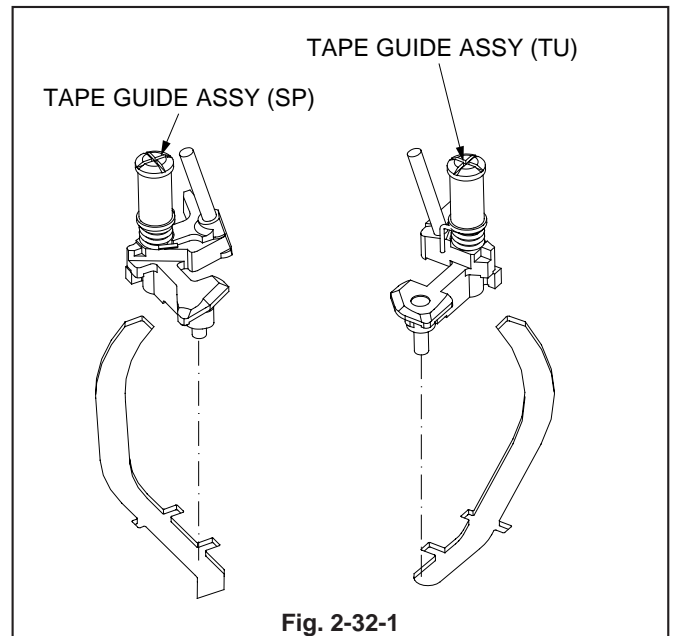

Fig. 2-32-1
1. Loosen the TAPE GUIDE ASSY (SP) shown in Fig. 2-32-1 (turn it fully in the unloading direction) to remove it.
2. Loosen the TAPE GUIDE ASSY (TU) shown in Fig. 2-32-1 (turn it fully in the unloading direction) to remove it.
2. Install the TAPE GUIDE ASSY (SP) shown in Fig. 2-32-1.
3. Install the TAPE GUIDE ASSY (TU) shown in Fig. 2-32-1.